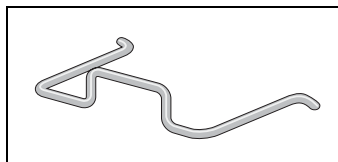

Figure 34. Power Cord Retaining Clip
1. Locate the power cord retaining clip, shown in Figure 34.